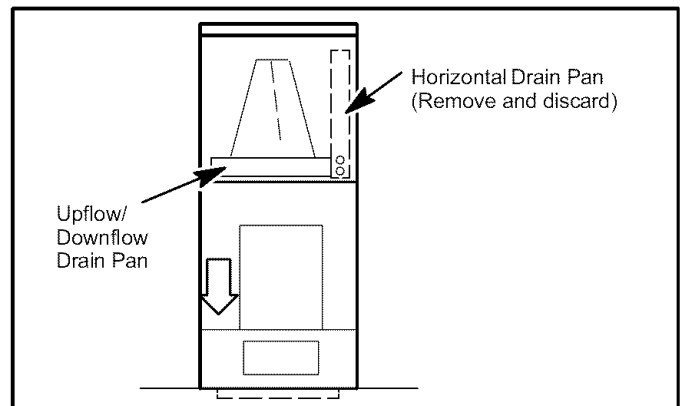

Figure 2. Downflow Discharge Position
3. Remove the horizontal drain pan from the blower coil unit (see figure 2).
4. Rotate cabinet 180° from the upright position (see figure 2). It may be necessary to remove the blower assembly to lighten the cabinet for lifting.